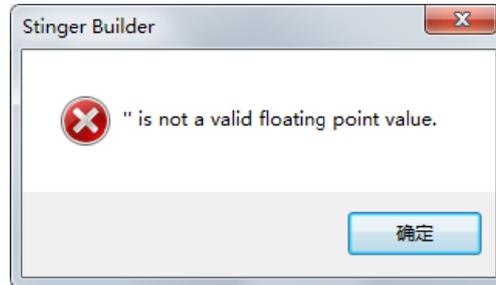

Fig. 4.1 Fault message window
1. A message window as Fig. 4.1 shows.